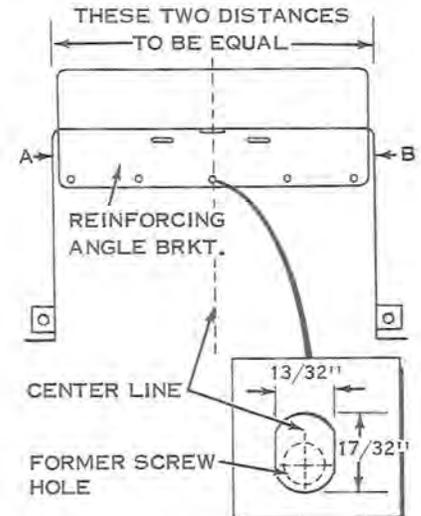

Figure 9-38
- h. Find center of reinforcing angle bracket by measuring from outside of frame to opposite side (distance A to B - Figure 9-38). With a combination square mark center line on reinforcing angle bracket. Using screw hole already there as a base, enlarge hole with a file until it reaches the measurement  $13/32$  inch x  $17/32$  inch (see Figure 9-38). Make sure that the inscribed center line runs through center of hole (see Figure 9-38, inset). NOTE: Existing hole in reinforcing angle bracket may not be in exact center of frame. Slot in taillight bracket must also be filed out until a circle  $13/32$  inch in diameter is formed. It may be necessary to anneal this bracket, as it has been factory hardened.